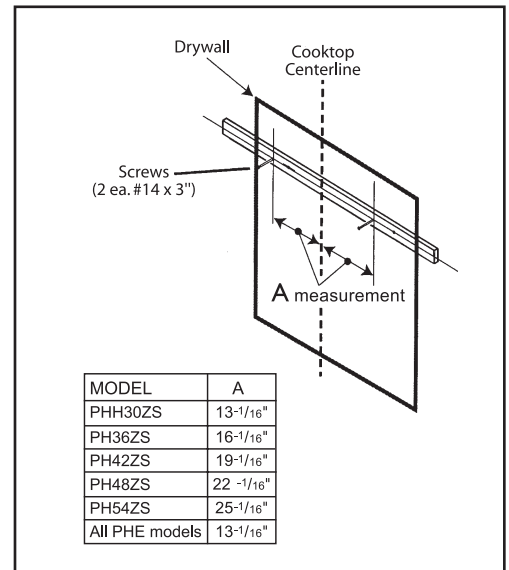

Figure 4 PHE & PH_Z
8. On the wood bracket, mark the locations used to hang the hood according to Figure 4.